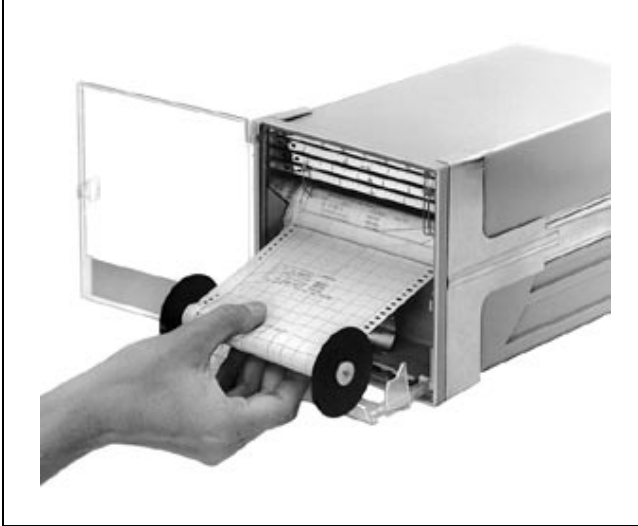

Fig. 11 Removing the chart
2. Hold chart as shown in fig. 11 and remove from axis.